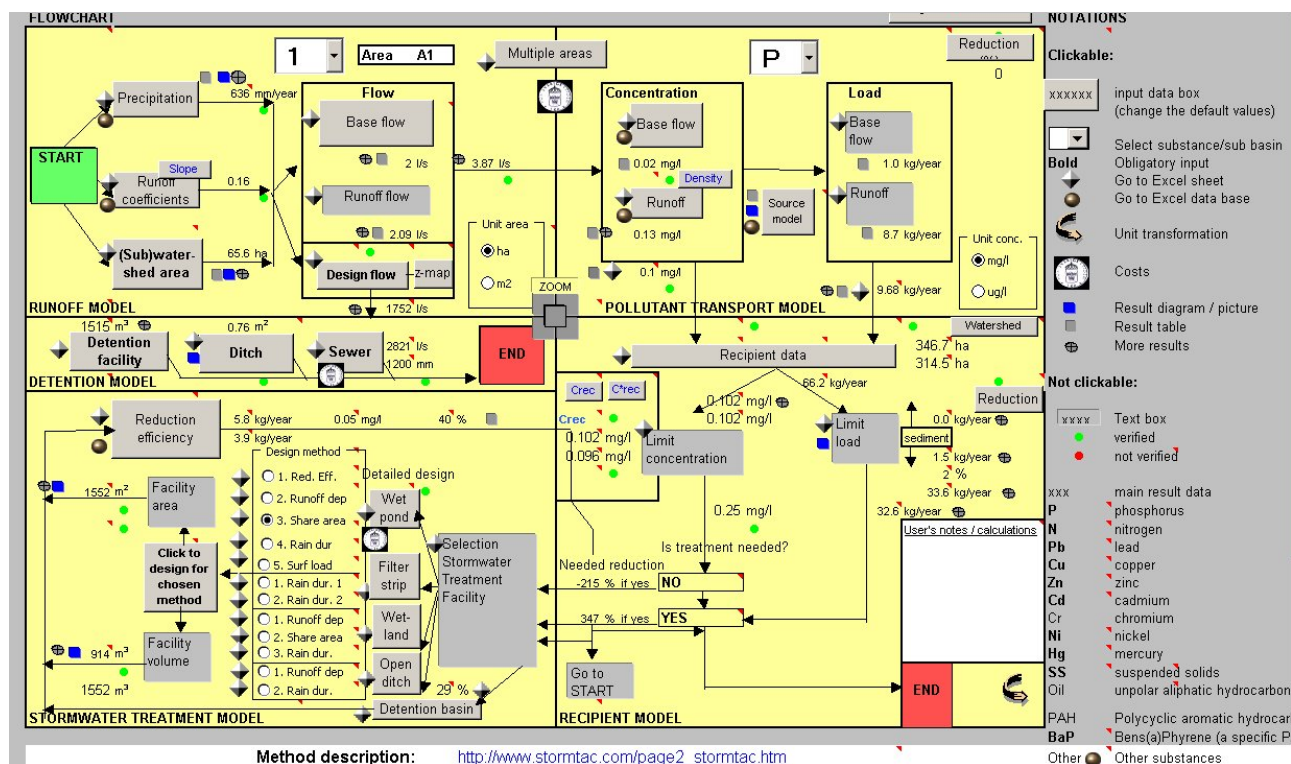

Figure 1 Model main page and flowchart.
1. The flowchart appearing when you open the model file is the main page (flowchart) of the model (the sheet "StormTac"), see Fig. 1. From here you can add or change default input data and from here you can study the main results of your input. Only if you would like to study data bases, the model equations and other information, you need to go to the other Excel sheets in the model.
- The model includes 5 sub models; Runoff model, Pollutant transport model, Recipient model, Stormwater treatment model and Detention model. These are appearing on the flowchart, see Fig.1.
- You can study the equations and more data by clicking on the symbol "Go to Excel sheet", see Notations on the right side of the flowchart (Fig. 1). In these other sheets you may write the input data in yellow cells (the rest of the cells are generally protected), which is an alternative of using the input boxes in the flowchart. However, there are more input data cells in the sheets than in the flowchart. Go back to the flowchart by selecting "To flowchart" from the menu "StormTac" or by clicking on the box named "flowchart" which is placed near cell A1 on each sheet, and in other places.